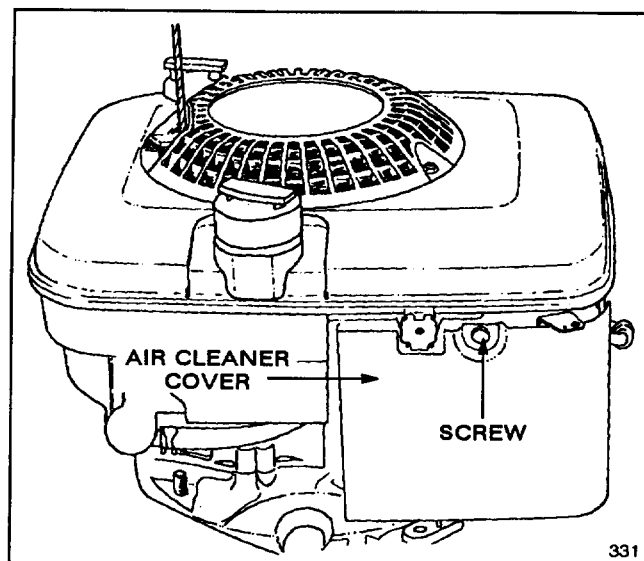

Figure 11
2. Remove screw securing air cleaner cover to engine (Fig. 11). Tilt cover down and clean thoroughly.
3. Set air gap at 0.030" (0.76 mm) (Fig. 11). Install correctly gapped spark plug and gasket seal. Tighten plug firmly to 15 ft-lb (20 N·m).